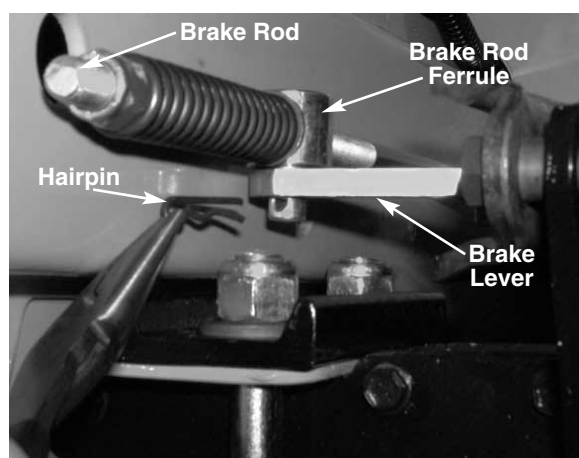

FIGURE 1.
5. Remove the hairpin securing the brake rod ferrule to the brake lever assembly. See figure 1.